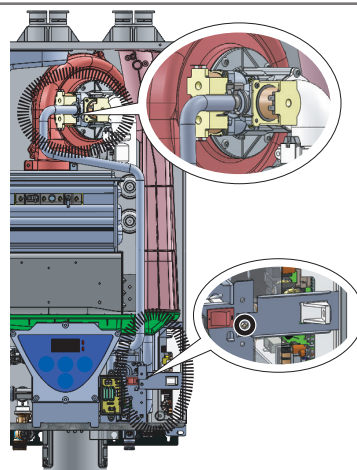

Figure 1
4. Locate the gas solenoid valve assembly in the upper part of the water heater. (Figure 1 on p.34)
11. Locate the PCB in the right side of the bottom of the water heater case and remove the screw indicating in Figure 1.
13. Put back the PCB into the case and reattach the removed screw. (Figure 1)
21. Put back the PCB into the case and reattach the removed screw. (Figure 1)